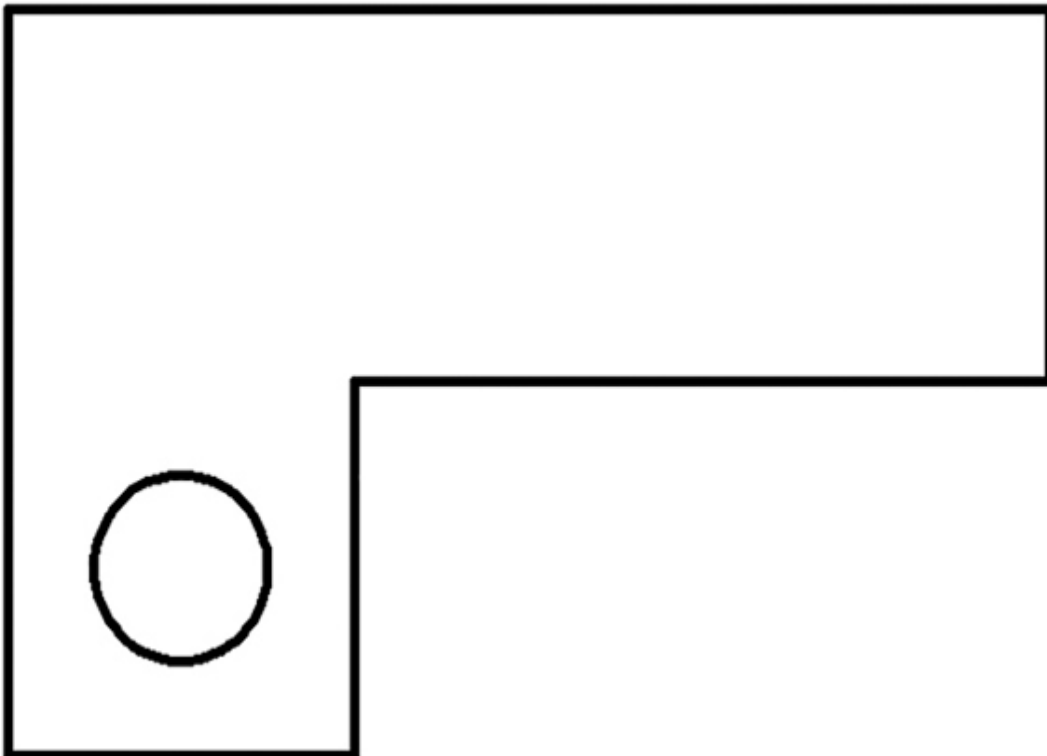

Figure 2-19
- 9** Press **<Esc>** to clear the selection. Your drawing should resemble Figure 2-19.
You can dynamically preview changes to an object before applying the changes. For example, if you select the circle in Figure 2-19 and then use the **Quick Properties** palette to change the color property, the circle dynamically changes color as you pass the cursor over each color in the list.